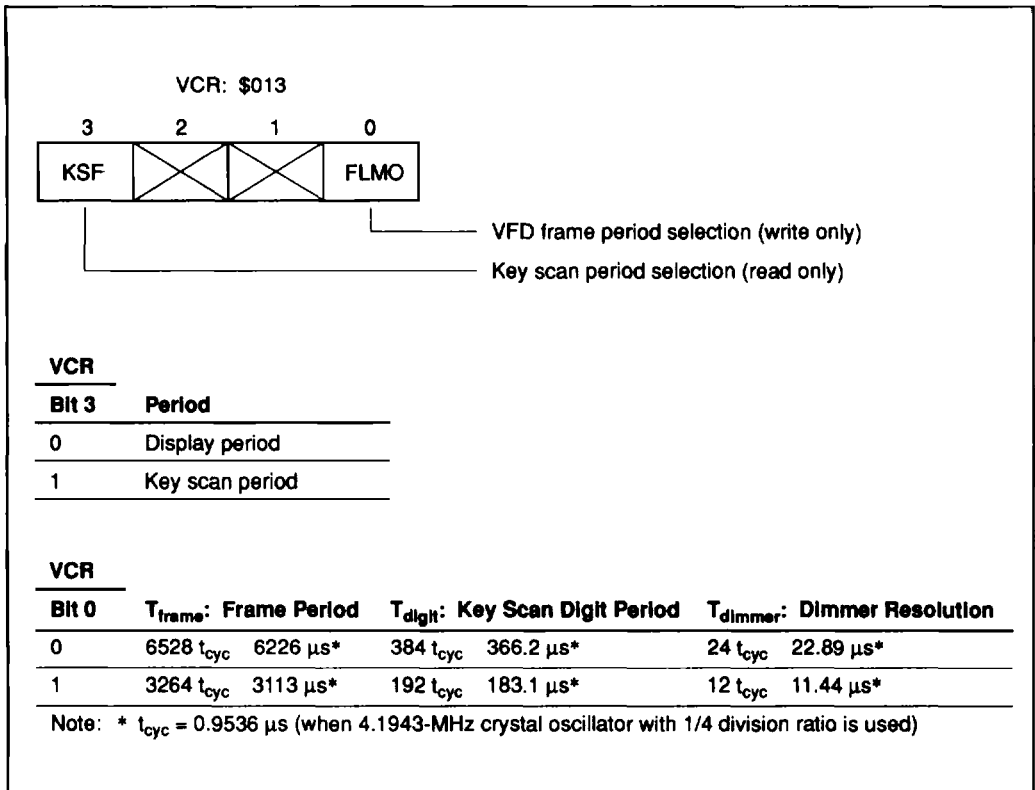

Figure 44 VFD Control Register
**VFD Control Register (VCR: \$013):** The VFD control register consists of a 1-bit write-only register and a 1-bit read-only/RAM bit test register (figure 44).